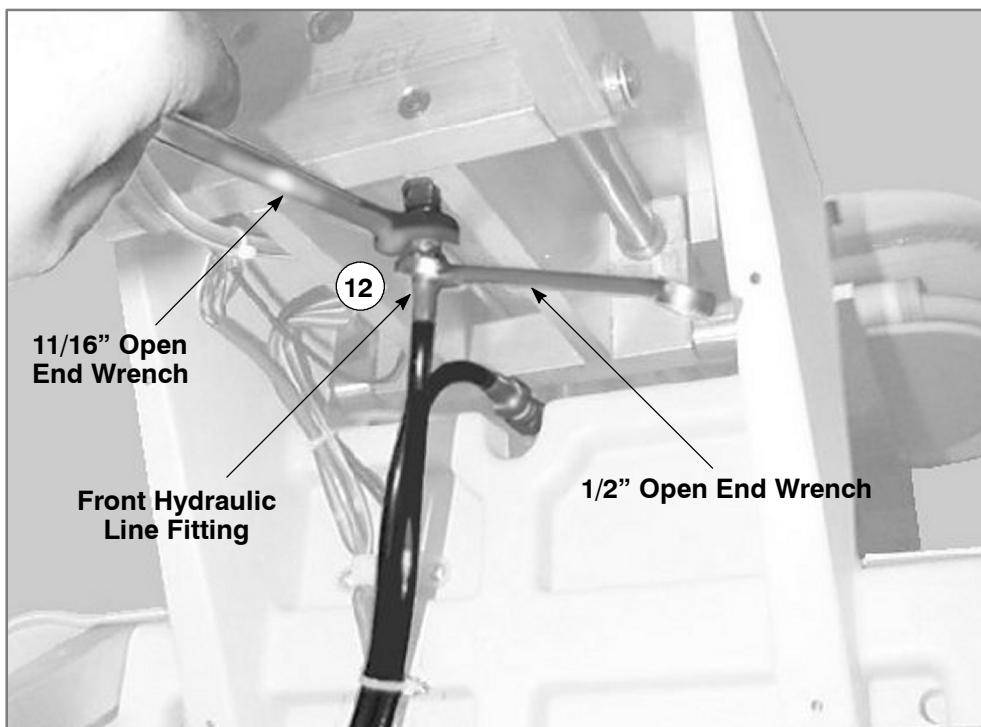

Figure 4-9. Removing the Front Hydraulic Line on the Upper Hydraulic Cylinder
12. Using the 5/8" open-end wrench along with a 1/2" open-end wrench, loosen the hydraulic fitting on the front side of the Upper Hydraulic cylinder. See Figure 4-9. Place a shop towel and a cup below the fitting to catch any fluid that may leak as the fitting is loosened.